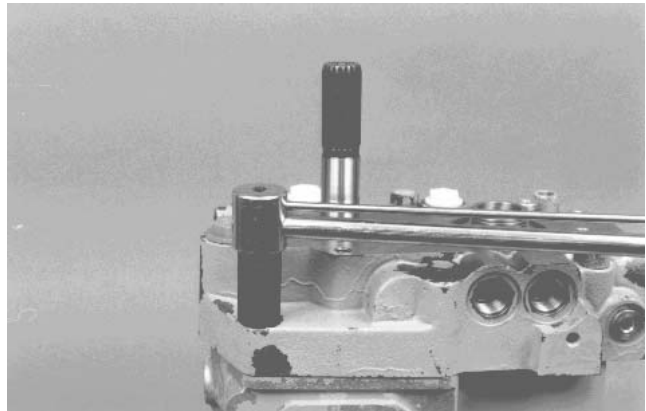

Figure 73
21. Install six (6) screws that retain the center section to the housing and torque evenly to 33 to 41 ft.-lb (45 to 56 N-m) (Fig. 73).